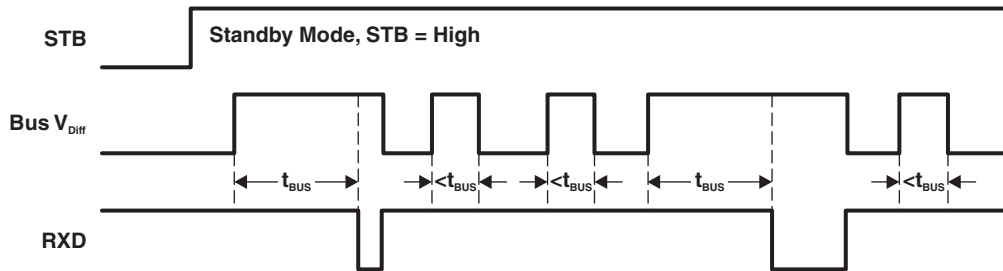
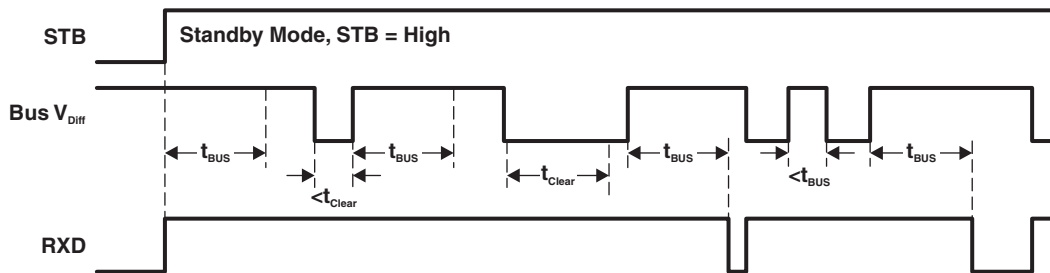

Figure 17. HVDA541 RXD Wake Up Request With No Bus Fault Condition
Figure 18. HVDA541 RXD Wake Up Request Lock Out When Bus Dominant Fault Condition
- (2) See Figure 17 and Figure 18 for operation of the low power wake up receiver and bus monitor for RXD Wake Up Request behavior and Table 5 for the wake up receiver threshold levels.
- (3) When  $V_{IO}$  is undervoltage, the device is forced into standby mode with respect to the CAN bus since there is not a valid digital reference to determine the digital I/O states or power the wake-up receiver.
(1) Mirrors bus state: LOW if CAN bus is dominant, HIGH if CAN bus is recessive.
(2) See Figure 17 and Figure 18 for operation of the low power wake up receiver and bus monitor for RXD Wake Up Request behavior and Table 5 for the wake up receiver threshold levels.
- (1) H = high level, L = low level, X = irrelevant, ? = indeterminate.
- (2) While STB is high (standby mode) the RXD output of the HVDA540 is always high (recessive) because it has no wake-up receiver.
- (3) While STB is high (standby mode) the RXD output of the HVDA541 functions according to the levels above and the wake-up conditions shown in Figure 17 and Figure 18.